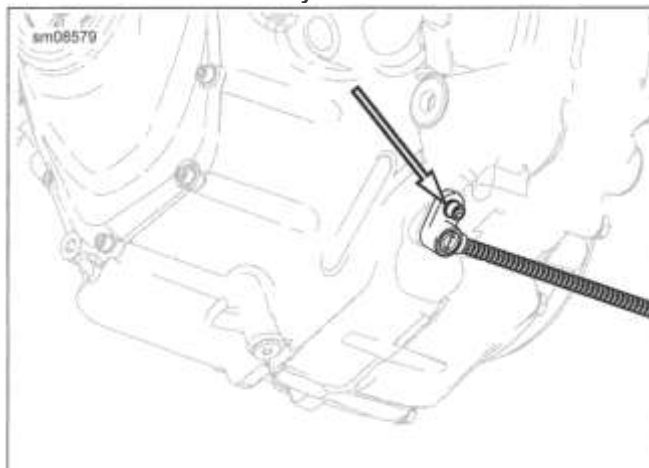

Figure 8-101. CKP Sensor Screw
3. See Figure 8-101. Remove screw to free CKP sensor. Pull sensor from bore.
2. See Figure 8-101. Install sensor with screw. Tighten.